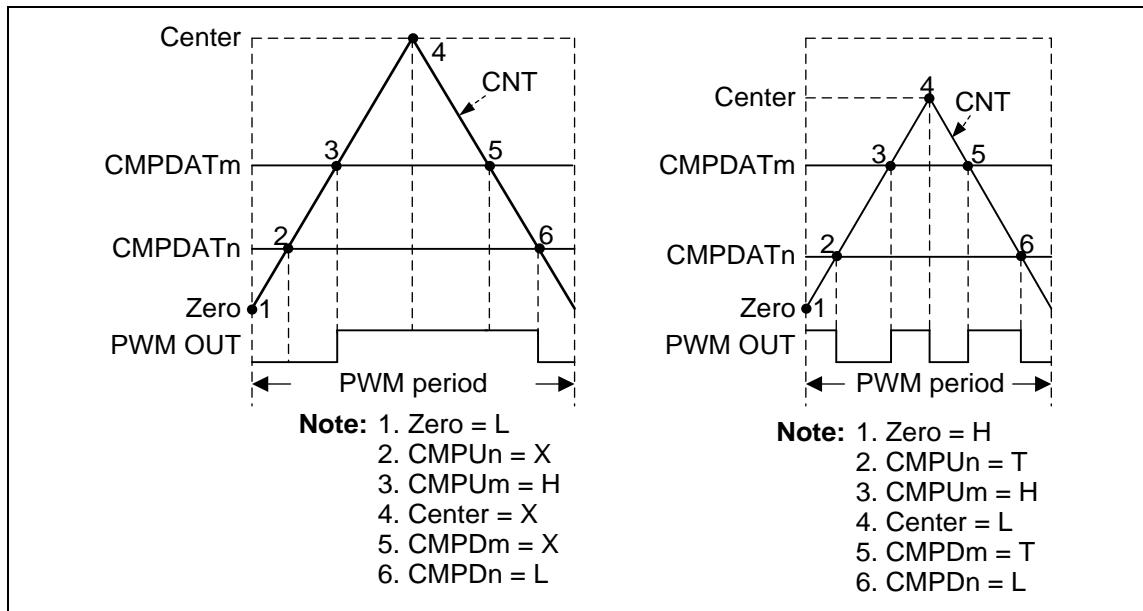

Figure 6.9-17 PWM Pulse Generation
Each event point can decide PWM waveform to do nothing (X), set Low (L), set High (H) or toggle (T) by setting the PWM_WGCTL0 and PWM_WGCTL1 registers. Using these points can easily generate asymmetric PWM pulse or variant waveform as shown in Figure 6.9-17. In the figure, PWM is in complementary mode, there are two comparators n and m to generate PWM pulse. n denotes even channel number 0, 2, or 4, and m denotes odd channel number 1, 3, or 5. n channel and m channel are complementary paired. Complementary mode uses two channels (CH0 and CH1, CH2 and CH3, or CH4 and CH5) as a pair of PWM outputs to generate complement paired waveforms. CMPU denotes CNT is equal to CMPDAT when counting up. CMPP denotes CNT is equal to CMPDAT when counting down.